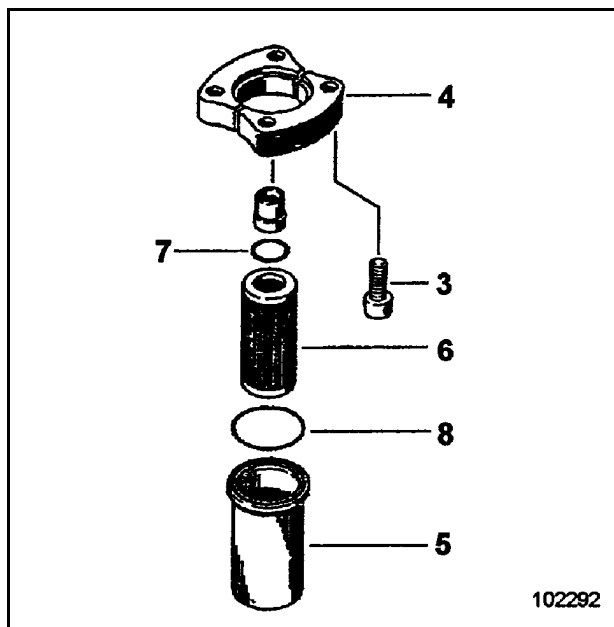

Fig. 3-55:
- Detach flange (4, Fig. 3-55:).
- Withdraw filter element (6) from filter housing (5).
- Insert new filter element into filter housing (5) and refit to filter head with a new, lightly oiled sealing ring (8).
- Install new filter element (6, Fig. 3-55:) and reassemble with a new, lightly oiled sealing ring (7).